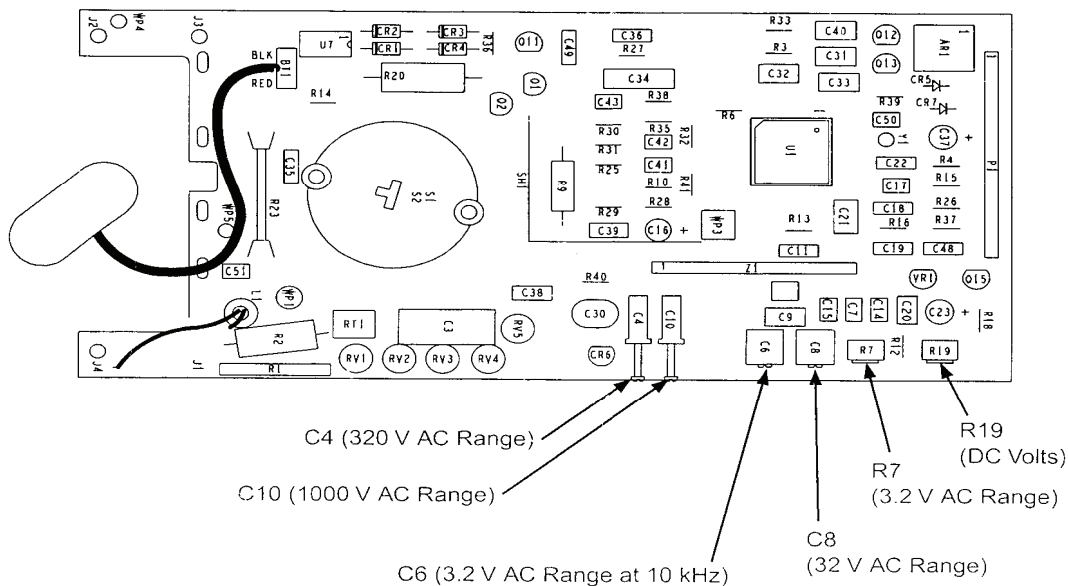

Figure 1. Adjustment locations.
(1) With same connection as made in step 8 a (1) above, and function switch set to **V**, press **RANGE** pushbutton for 3.200 V range.
(2) Set calibrator for a 3 V dc output, push calibrator **OPR/STBY** button to **OPR**.
(3) Adjust R19 (DC Volts) (fig. 1) until TI indicates 3.000 V dc. (R)
(4) After adjustment is made set calibrator to **STBY** and repeat performance check 8 a (1) through (11) above.
- (1) Set function switch to \sim V.
- (2) Press **RANGE** pushbutton for 3.200 V range.
- (3) Set calibrator for a 3 V, 100 Hz output.
- (4) Adjust R7 (3.2 V AC Range) (fig. 1) for a 3.000 V ac ± 0.001 V ac TI indication. (R)
- (5) Press **RANGE** pushbutton for 320.0 V range.
- (6) Set calibrator for a 300 V, 5 kHz output.
- (7) Adjust C4 (320 V AC Range) (fig. 1) for a 300.0 V ac ± 0.1 V ac TI indication. (R)
- (8) Press **RANGE** pushbutton for 1000 V range.
- (9) Set calibrator for a 1000 V, 5 kHz output.
- (10) Adjust C10 (1000 V AC Range) (fig. 1) for a 1000 V ac ± 1 V ac TI indication. (R)
- (11) Set calibrator to **STBY**.
- (12) Press **RANGE** pushbutton for 32.00 V range.
- (13) Set calibrator for a 30 V, 5 kHz and **OPR**.
- (14) Adjust C8 (32 V AC Range) (fig. 1) for a 30.00 V ac ± 0.01 V ac TI indication. (R)
- (15) Set calibrator for a 3 V, 5 kHz output.
- (16) Press **RANGE** pushbutton for 3.200 V range.
- (17) Adjust C6 (3.2 V AC Range at 10 kHz) (fig. 1) for a 3.000 V ac ± 0.001 V ac TI indication. (R)
- (18) Set calibrator for a 3 V, 100 Hz output. If TI does not indicate between 2.980 and 3.020 V ac, repeat (4) through (17) above as necessary.
- (19) Set calibrator to **STBY** and disconnect connections.